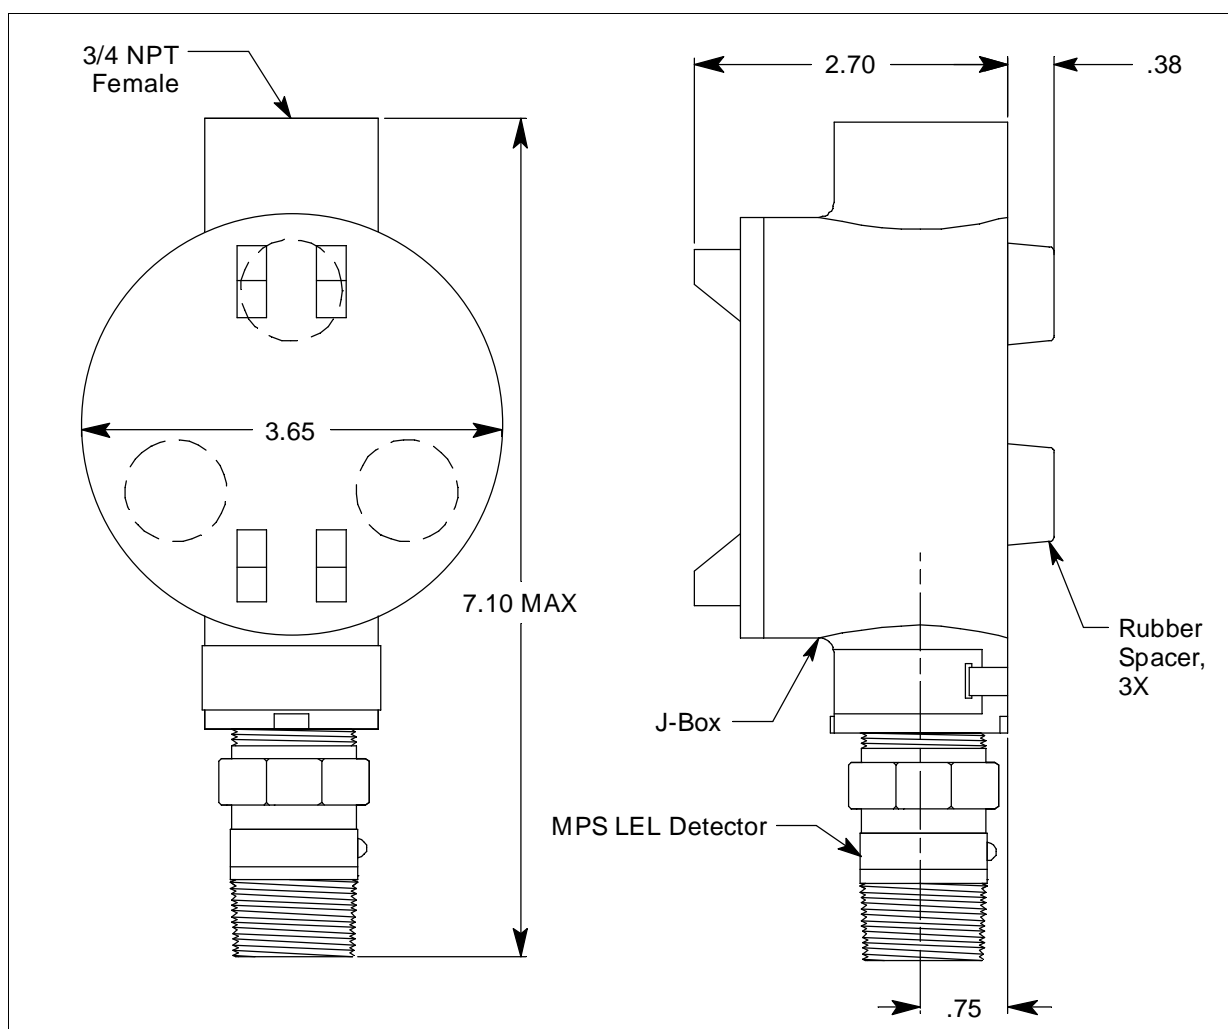

Figure 3: Mounting the Combustible Gas Transmitter
2. At the monitoring site you select, hang or mount the junction box with the detector facing down (see Figure 3).